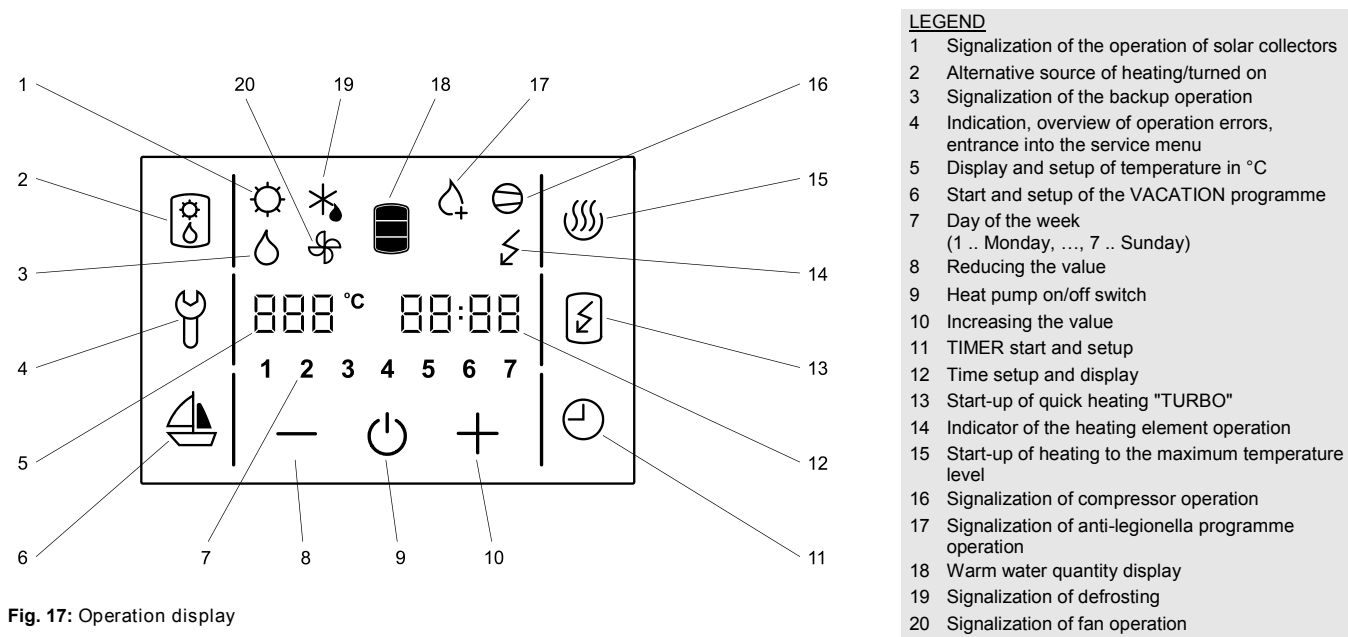

Fig. 17: Operation display
The heat pump can be operated using an LCD touch screen (Fig. 17). If you press anywhere on the screen, the screen lights up. When the screen is lit up, the operation fields are active.
- By pressing field no. **4**, you can activate the maintenance mode (**Figure 17**).